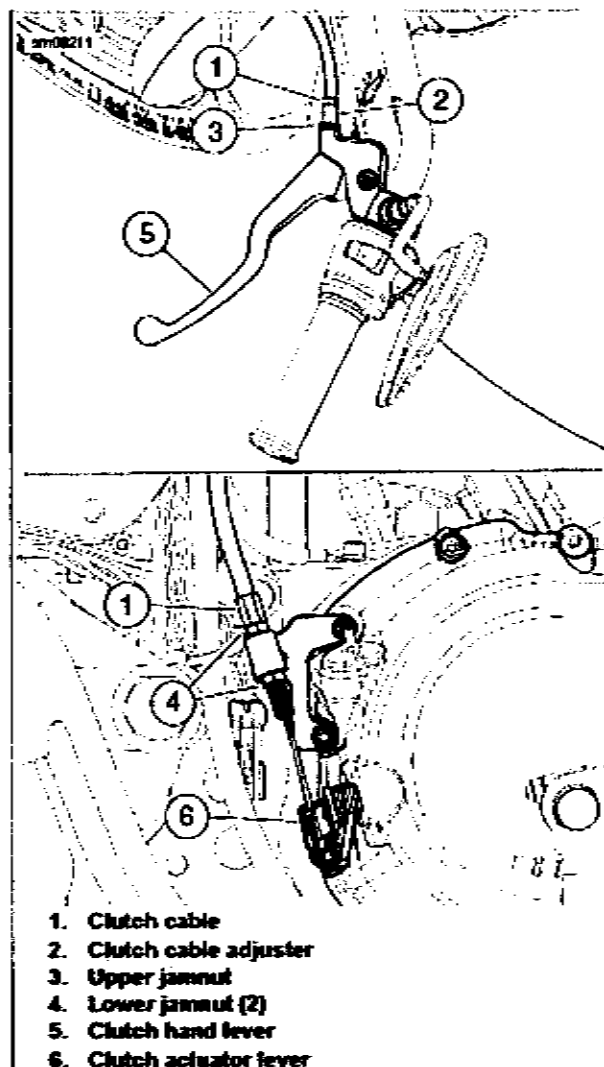

Figure 2-18. Clutch Cable Adjustment
1. See Figure 2-18. Adjust clutch cable at clutch actuator lever.
- a. Verify that the clutch actuator lever (6) is fully disengaged.
- b. Loosen lower jamnuts (4).
- c. Adjust clutch cable (1) to remove slack.
- d. Tighten lower jamnuts (4).
2. See Figure 2-18. Adjust clutch cable at clutch hand control.
- b. Loosen upper jamnut (3).
- c. Turn clutch cable adjuster (2) to adjust to specification. Refer to Table 2-7.
- d. Tighten upper jamnut (3).